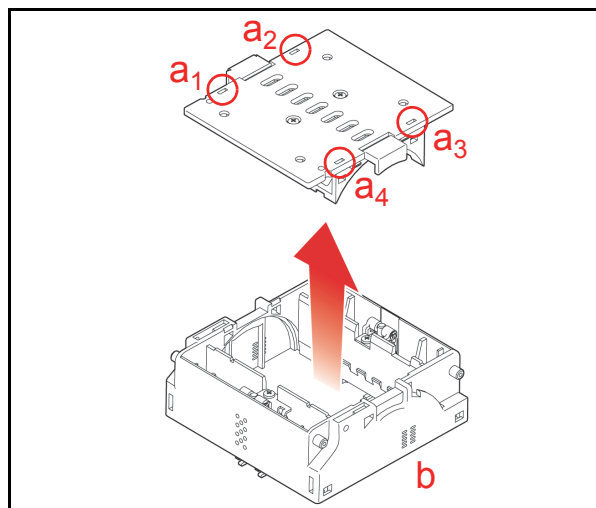

Figure 4-17 Lower Guide Assembly Cover Removal
4. Turn the Lower Base Assembly upside-down and remove the Lower Lid by pressing in on the four (4) Lower Lid Open/Close Release Tabs (See Figure 4-17 a₁ through a₄) with a Flatblade Screwdriver, and pry the lid up and off the Assembly (See Figure 4-17 b).